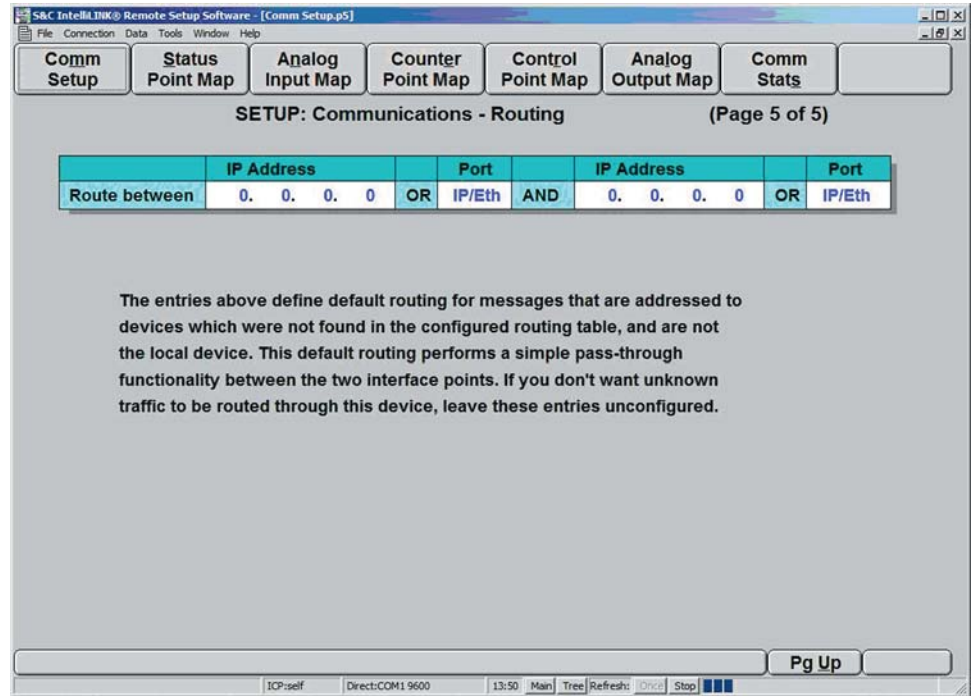

Figure 14. *SETUP: Communications - Routing*, Page 5.
14. From *SETUP: Communications - Routing* click the *PgDn* Button to go to Page 5 of 5 (Figure 14). Enter the correct values for the Interface Module.